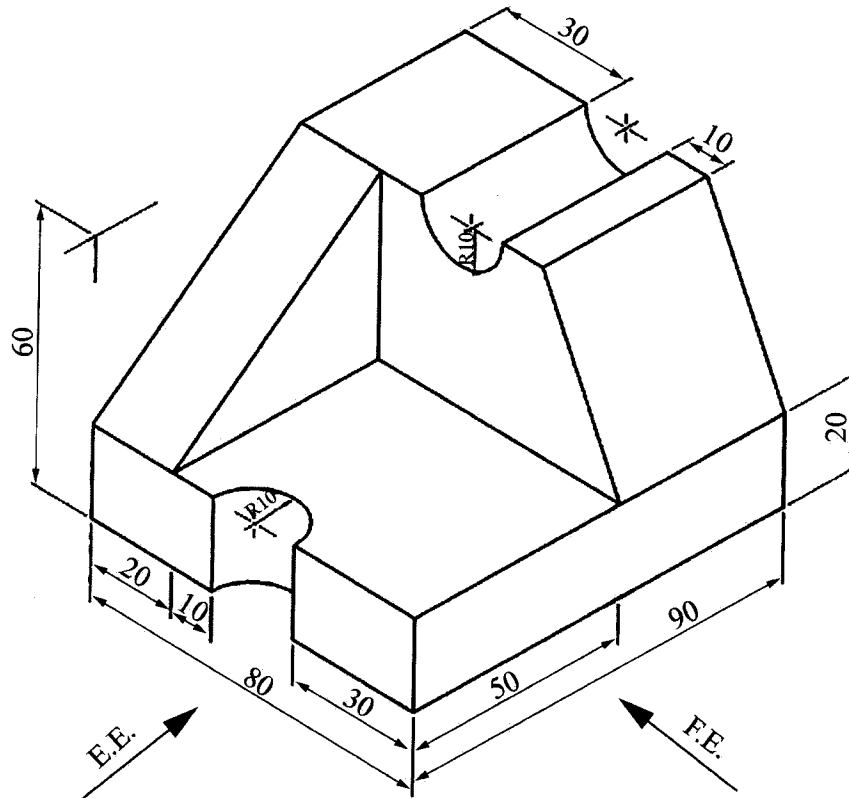

Figure 1
11. Figure 1 shows a machine block drawn in isometric projection.